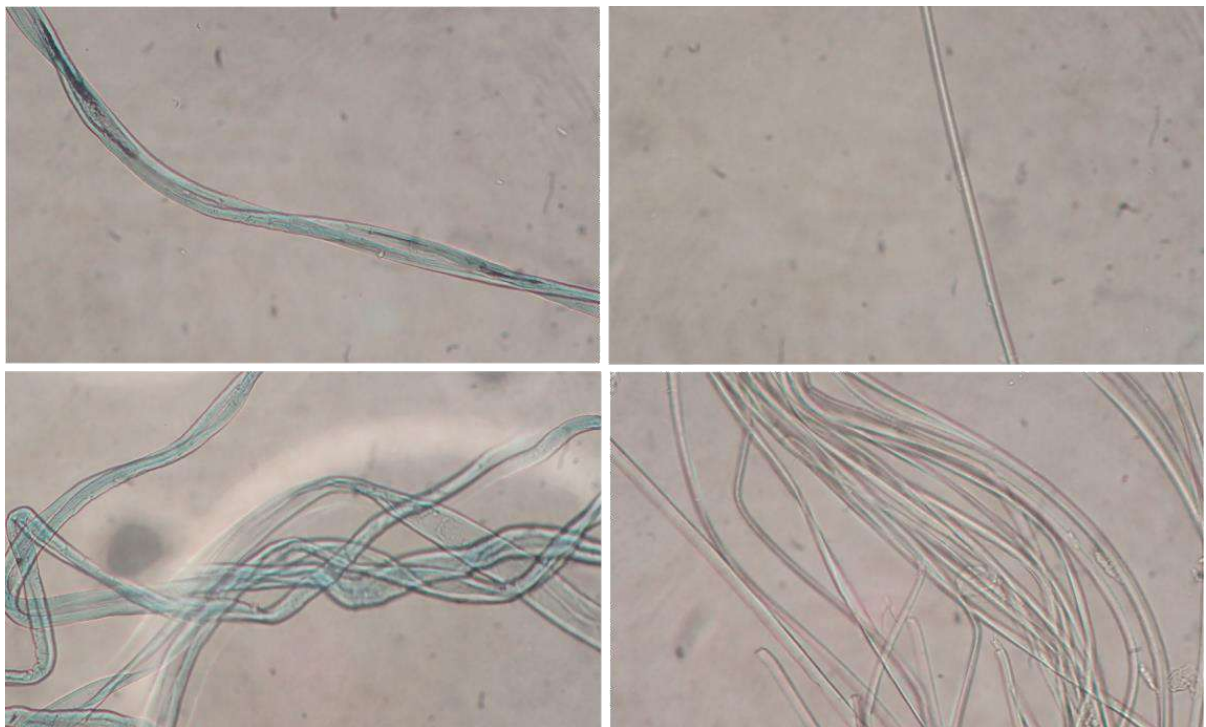

Figure 2: Cotton (left) and polyester (right) microfibers observed under the light microscope
12. Try to distinguish synthetic from cotton microfibers with the help of the light microscope. Polyester fibres are smooth tubes, usually translucent in their interior, with very well defined walls. Cotton fibres are flat, usually twisted, their interior may contain pigmentation and the walls have many imperfections and folds (Fig. 2 and 3);